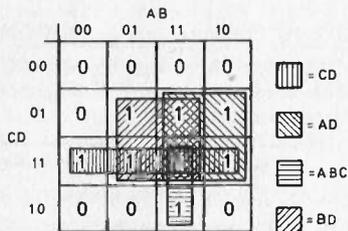

Fig. 1.8f. Map with the groups marked in
Groups that overlap each other are a very good thing, as they simplify the expression. You should make each group as large as possible and with as much overlap as possible, so long as by doing this you still enclose at least one '1' which would not otherwise have been contained in any other group. Fig. 1.8f shows the groups that we have selected. There is considerable overlap, yet only a small number of groups (considerably less than the number of terms in the original equation (1)), which is a very good thing.
As shown in Fig. 1.8f, that group is simply written as AD . All the groups can be labelled in exactly the same way, just by looking for the variables that are common to all squares in that group.
We can now write down the terms for all groups in the map of Fig. 1.8f. They are AD , BD , CD , ABC .